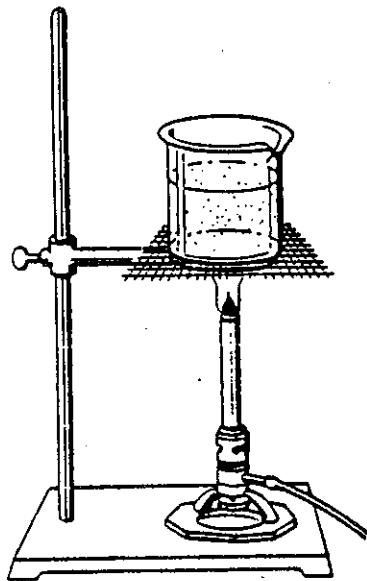

Figure 7. Heating a liquid in a beaker.
2. Place a 250-mL beaker one-half filled with water on a wire gauze resting on the iron ring (Figure 7).